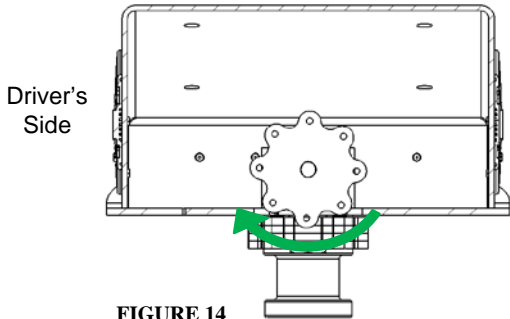

FIGURE 14
- Tighten wedge fitment by scrolling the handle underneath the pinbox towards driver's side (Figure 14). Hand tighten only.